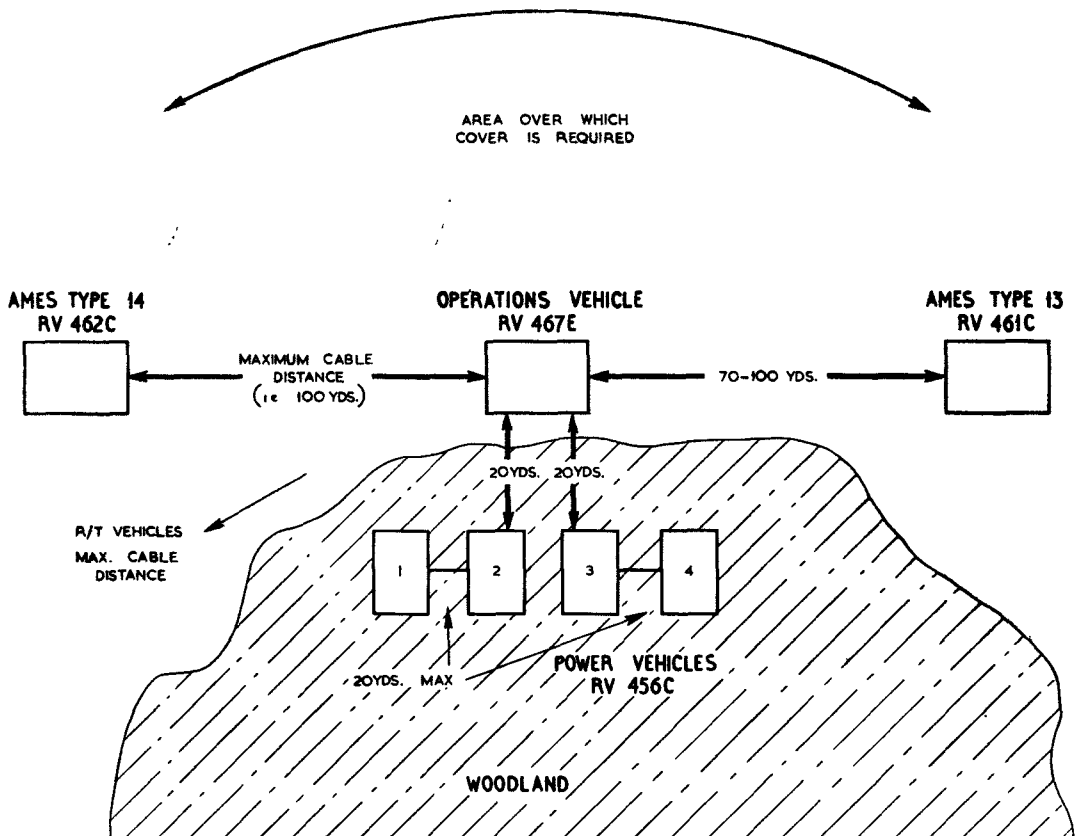

Fig. 1. AMES Type 21 Mk. 5: example of site layout
10. Full details of the connections between vehicles are given in Chapter 2 but a suggested layout of the site is given in fig. 1.
18. The other vehicles in the convoy must by reason of the length of the cables lie within 100 yards of the aerials. Thus some screening by them is inevitable but can be reduced to a minimum by using the full lengths of the cables as shown in fig. 1.